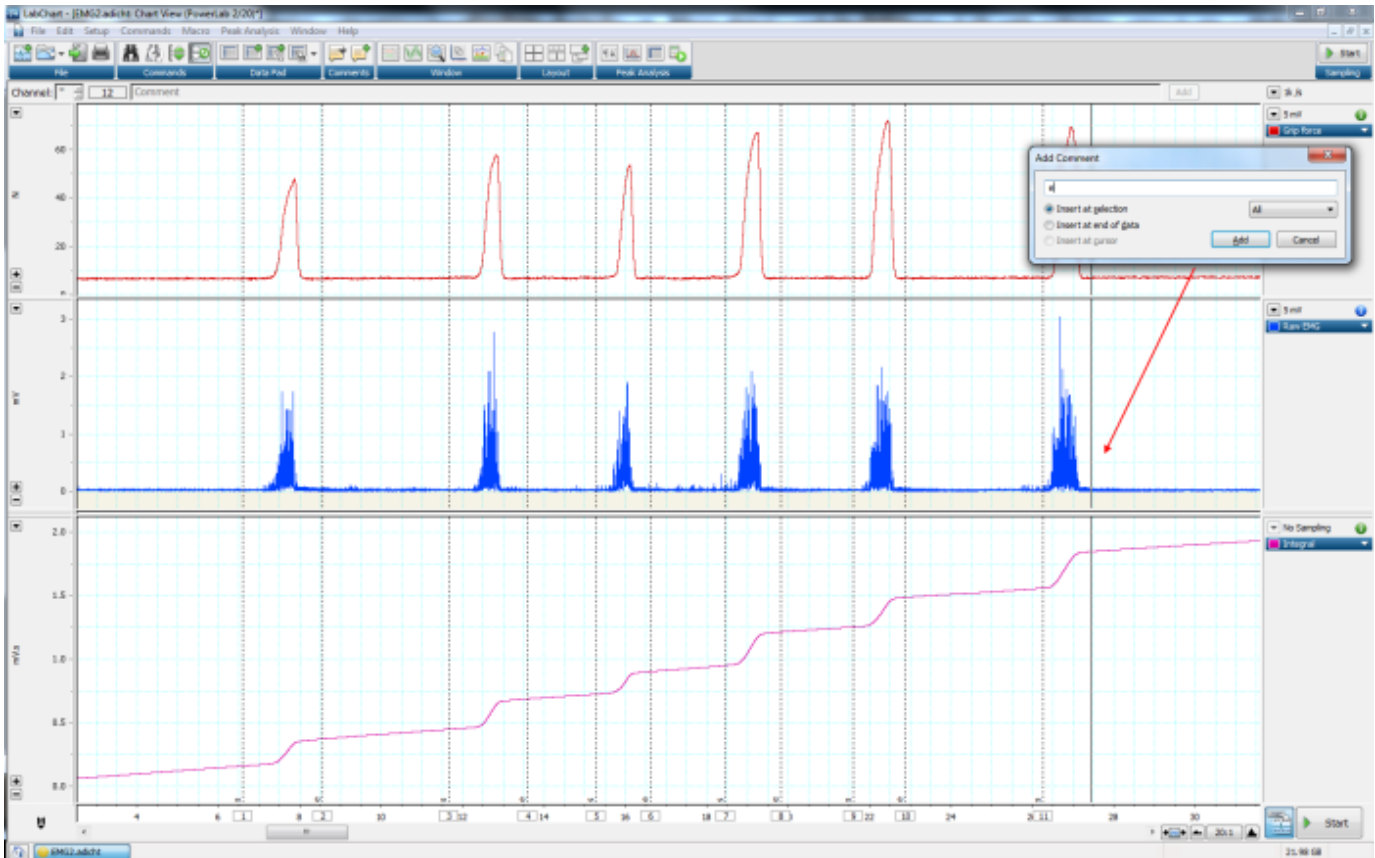

Figure 12: Add 'comment windows' to all muscle contraction of interest.
3. Define EMG ‘windows’ using comments. For each epoch of EMG activity, add a comment to the beginning of the series by positioning the cursor and right-clicking (or Ctrl-K) followed by ‘**add comment**’. Label the comment ‘s’ to denote start. Repeat for the end of the EMG event and label ‘e’ to denote end. Repeat this for all muscle contractions of interest (Figure 12).